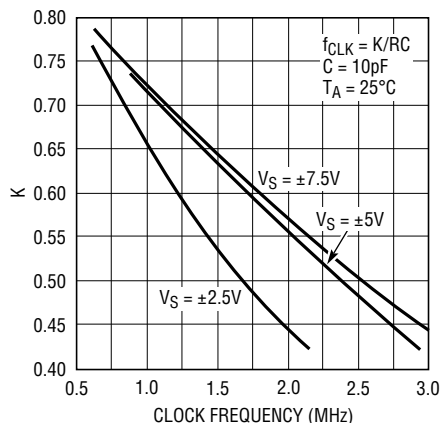

Figure 6. f_{CLK} vs K
For a very limited temperature range, the internal oscillator of the LTC1063 can be used to generate clock frequencies above 500kHz (Figures 6 and 7). The data of Figure 6 is derived from several devices. For a given external (RC) value, the observed device-to-device clock frequency variation was $\pm 1\%$ ($V_S = \pm 5\text{V}$), and $\pm 1.25\%$ for $V_S = \pm 2.5\text{V}$.
from Figure 6, $K = 0.575$,